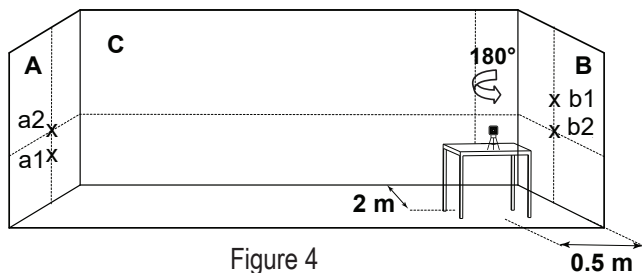

Figure 4
- 12) On wall **A**, mark the intersection point as **a2** (see figure 4).